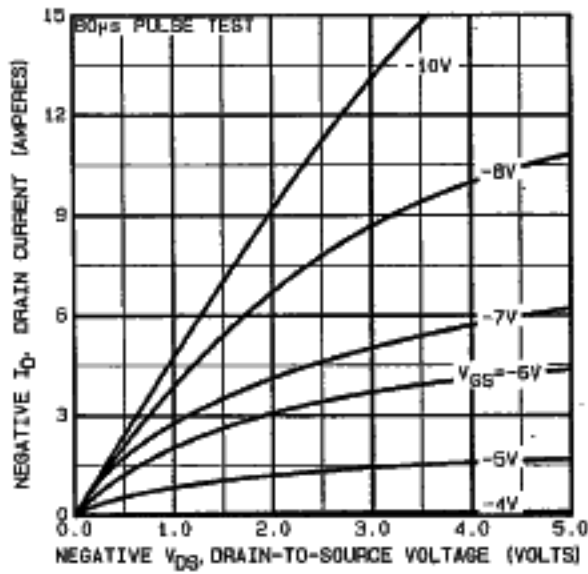

Fig. 3 - Typical Saturation Characteristics
- ① Repetitive Rating; Pulse width limited by maximum junction temperature (see Figure 3)
- ② @  $V_{SD} = -20\text{V}$ , Starting  $T_J = 25^\circ\text{C}$ ,  $L = 5.1\text{mH}$ ,  $R_G = 25\Omega$ , Peak  $I_S = -9.9\text{A}$
- ③  $I_{SD} \leq -9.9\text{A}$ ,  $dI/dt \leq -120\text{A}/\mu\text{s}$ ,  $V_{DD} \leq 40\text{V}$ ,  $T_J \leq 150^\circ\text{C}$ , Suggested  $R_G = 18\Omega$
- ④ Pulse width  $\leq 300\mu\text{s}$ ; Duty Cycle  $\leq 2\%$
- ⑤  $\text{KW} = ^\circ\text{C}/\text{W}$ ,  $\text{WK} = \text{W}/^\circ\text{C}$
- ⑥ Mounting pad must cover heatlink surface area. See case style drawing on front page.